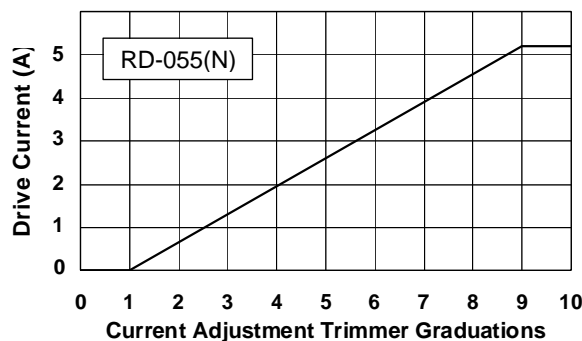

Fig.15. Current Setting
- The motor current of RD-055 is 1A/phase to 5A/phase. Please refer to fig.15 for the current setting graph. (A motor with a current rating of up to 5A/phase can be used.)
- The motor current of RD-055N is 1A/phase to 5A/phase. Please refer to fig.15 for the current setting graph. (A motor with a current rating of up to 5A/phase can be used.)